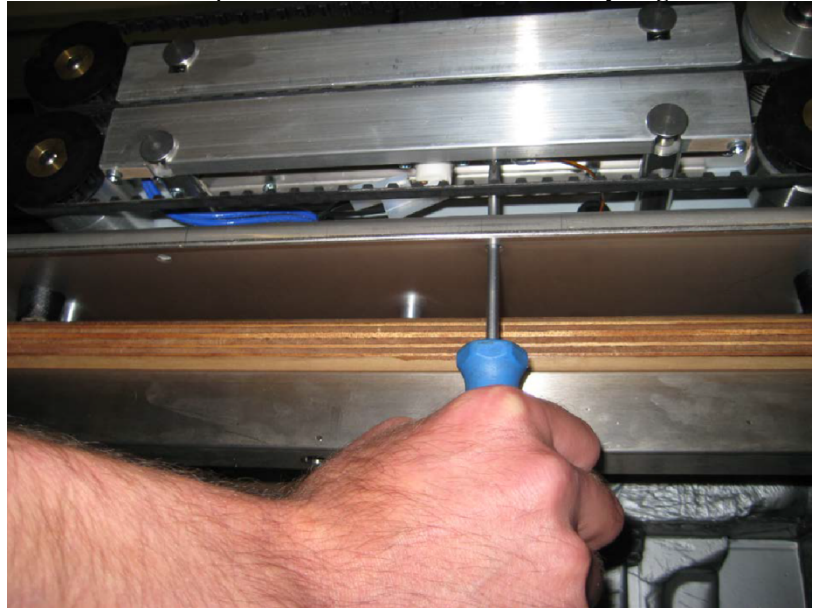

Figure 5
5. Fit the new thermocouple and make sure it is fitted correctly. **Fig. 5**